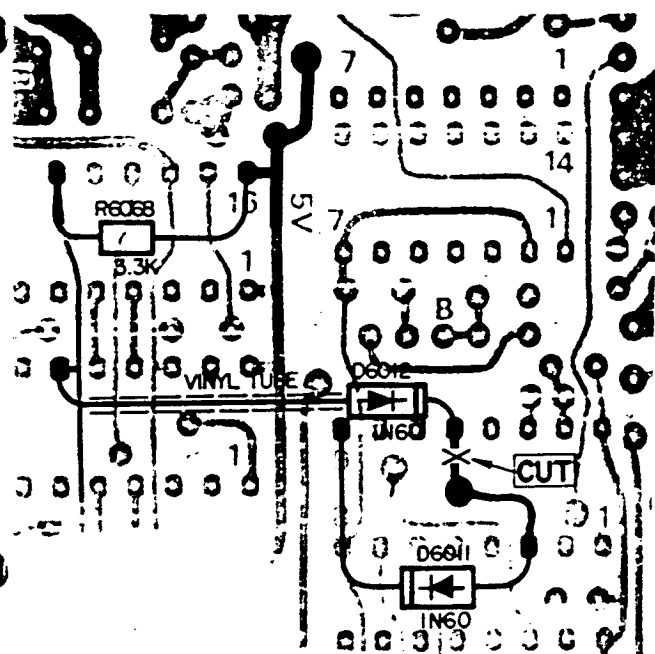

Fig. 2-6
1. Cut the upper pattern on PB-2175, as shown in Figure 2-6.
2. Install and solder the two 1N60 diodes and the 3.3 Kohm resistor as shown in Figure 2-6.